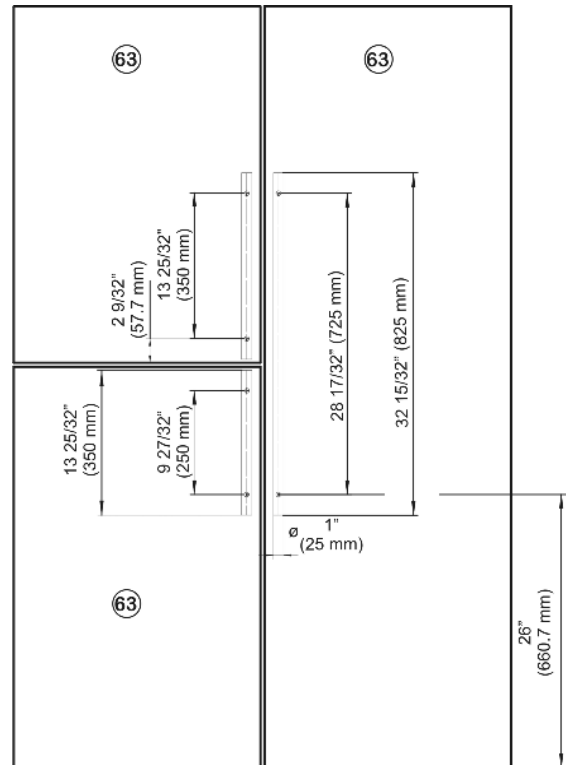

Fig. 75 Handles from the manufacturer  $\varnothing$  1" (25mm)
- ▶ Fit handles to the overlay panel *Fig. 75 (63)* as shown in the diagram.